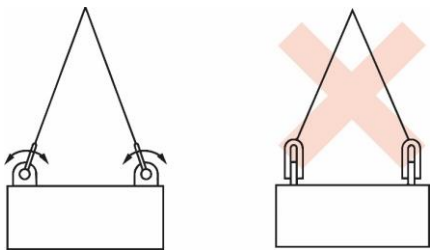

Figure 1
- Shackles should not be used in a way that lateral loads are generated. Generally, this means that the shackle body should receive the load along the axis on its centre line (see figure 1).